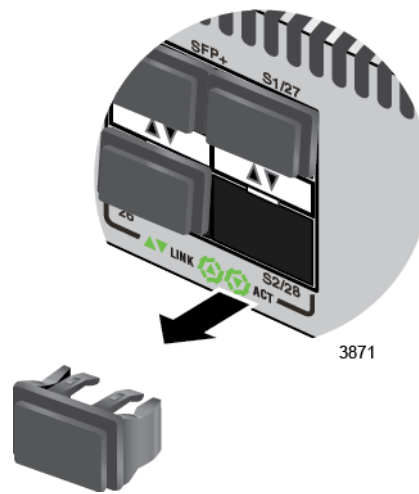

Figure 59. Removing the Dust Plug from the S2 Slot
5. Remove the dust cover from the S2 slot in the next switch in the stack as shown in Figure 59.